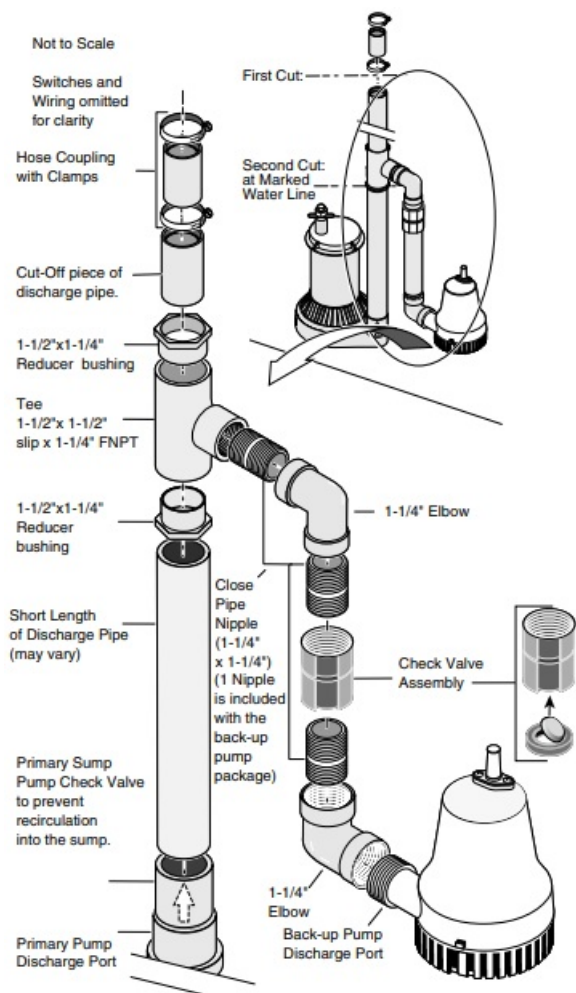

Figure 4 – Method A installation diagram
Method A suggests installing both of the pumps on the floor of the sump pit. See Figure 4. The minimum required sump basin diameter, at the bottom of the pit and the recommended depth of the sump basin is 18". Some additional materials you will need are 2 1-1/4" 90° elbows and 2 1-1/4" close pipe nipples.
1. Make the second cut in the discharge pipe at the pencil mark as shown in Figure 1 on page 4, and in Figure 4, on Page 5. Clean the pipe ends with a cloth towel and set the cut-off piece of discharge pipe aside.